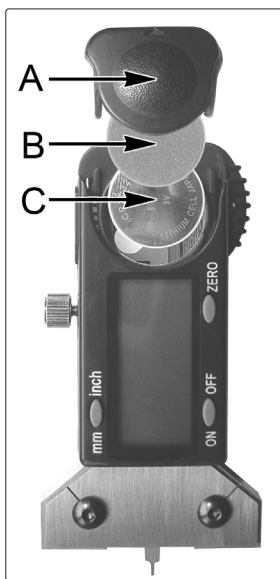

fig.2
5.1.1. Remove battery cover (fig.2.A) by sliding it backwards and lifting off.
5.1.2. Remove rubber spacer (fig.2.B) and exhausted battery (fig.2.C) and fit replacement with +ve side uppermost. Place the rubber spacer on top of the battery and press it into the recess. Slide the cover back into place.